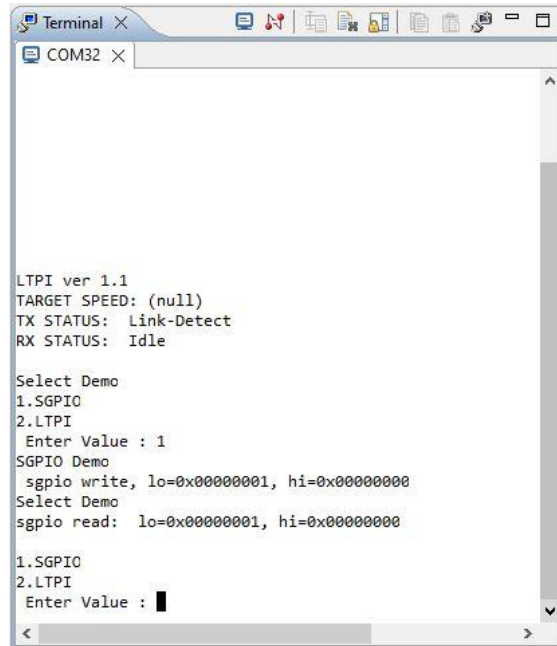

Figure 6.27. UART SGPIO Demonstration Selection
3. Make the following selection for the SGPIO demonstration, as shown in Figure 6.27.